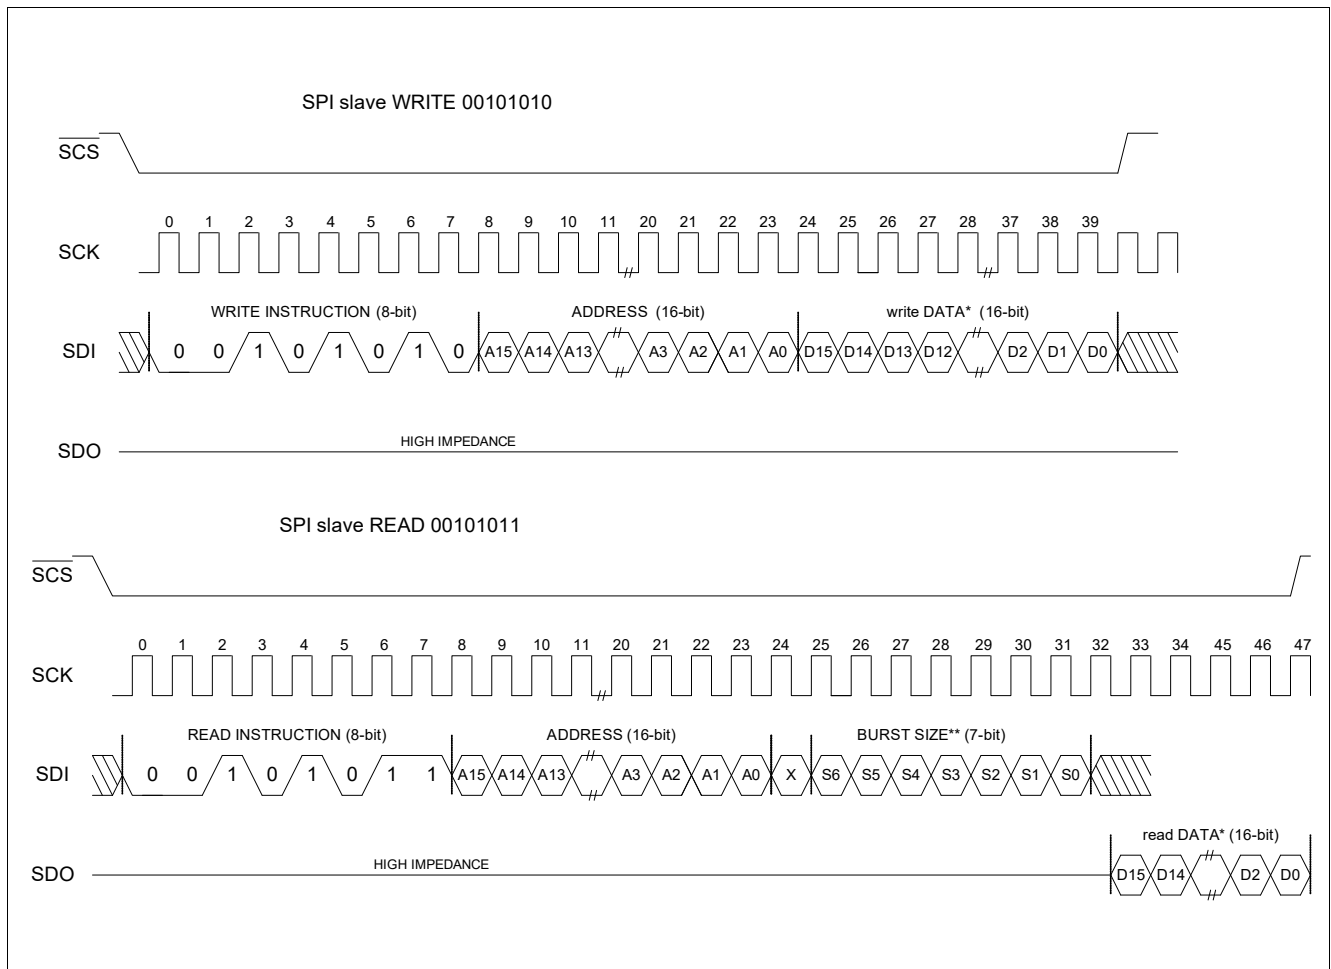

Figure 10 SPI Slave Access
SPI Slave follows the 16-bit/24-bit serial EEPROM like protocols (for WRITE/READ respectively) as shown in timing diagrams **Figure 10**:
- SDO can also be driven up to 2 SCK cycles earlier than the sequence defined in **Figure 10**.
- if $\text{SSPI_CFG.REFCYC} = 0$, SDO is driven 2 SCK cycles earlier than the sequence defined in **Figure 10**.
- if $\text{SSPI_CFG.REFCYC} = 1$, SDO is driven 1 SCK cycles earlier than the sequence defined in **Figure 10**.
- if $\text{SSPI_CFG.REFCYC} = 2$, SDO is driven as the sequence defined in **Figure 10**.
- if $\text{SSPI_CFG.REFCYC} = 3$, SDO is driven 1 SCK cycles after than the sequence defined in **Figure 10**.